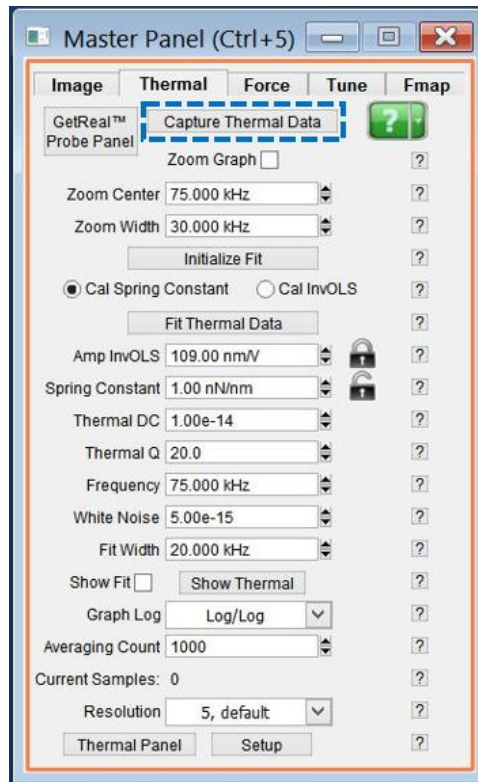

Figure 12.2.: Master panel, Thermal tab
- In the *Master panel* (Ctrl + 5), select the Thermal tab (See Figure 12.2 on page 144).